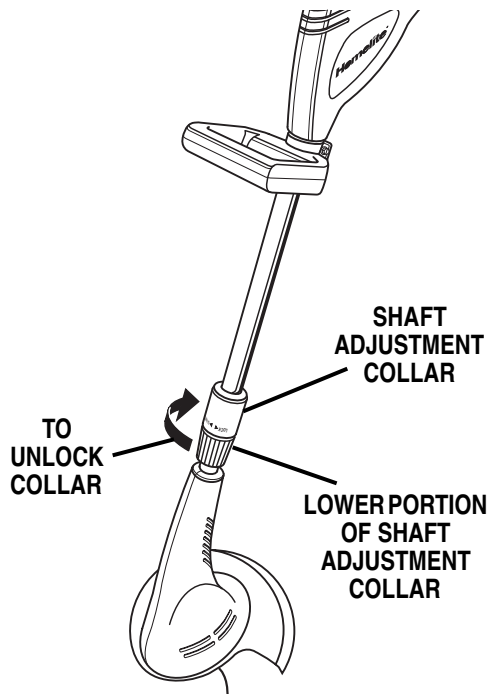

Fig. 3
- Rotate the lower portion of the shaft adjustment collar to the "Unlock" position. *See Figure 3.*